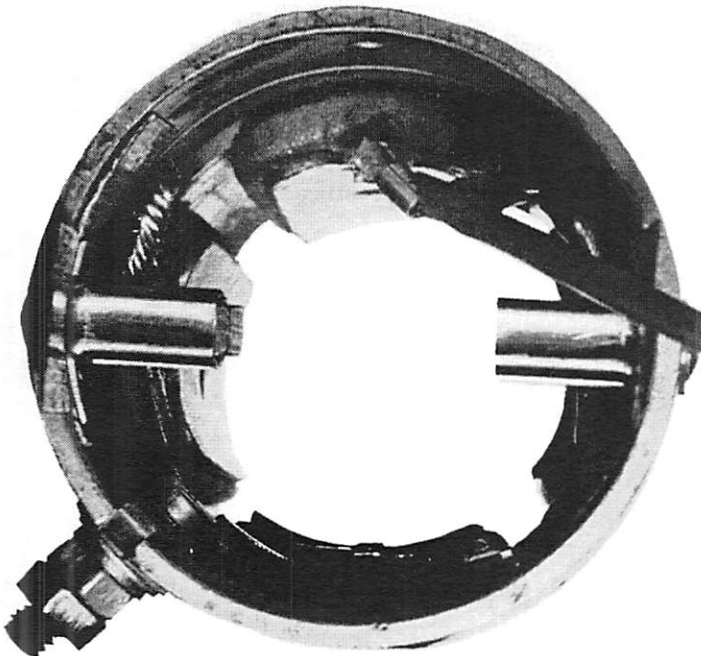

Figure 1. Opening Clip
- b. Open clip which supports insulated brush leads with pair of sidecutters or similar tool. (Figure 1)